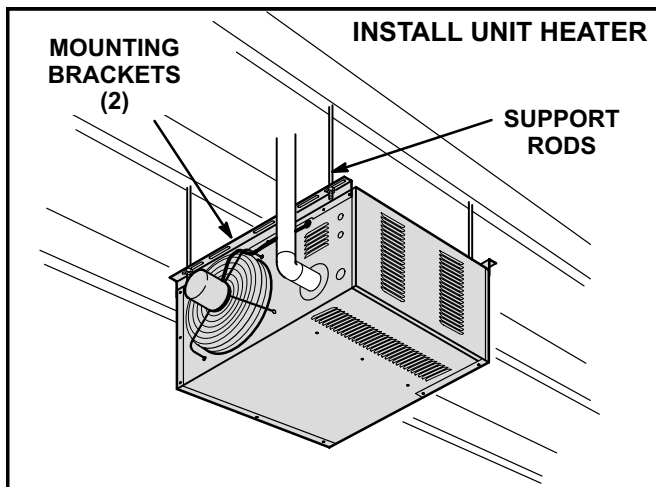

FIGURE 1
Unit is shipped ready for installation. Unit may be installed as shown in figure 1 or inverted 180° depending on desired location as governed by clearances, vent connection, air direction, gas supply, electrical supply and service accessibility.
- 5 - To support unit, secure mounting bracket to ceiling joist or truss. Unit may also hang on support rods as shown in figure 1.